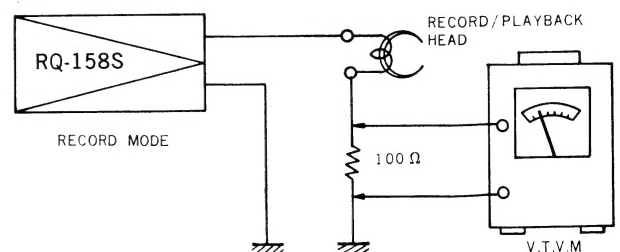

Fig. 4
Measuring Circuit: Refer to Fig. 4
1. As shown in Fig. 4, insert 100  $\Omega$  resistor to ground lead wire of Record Head and connect VTVM across resistor.